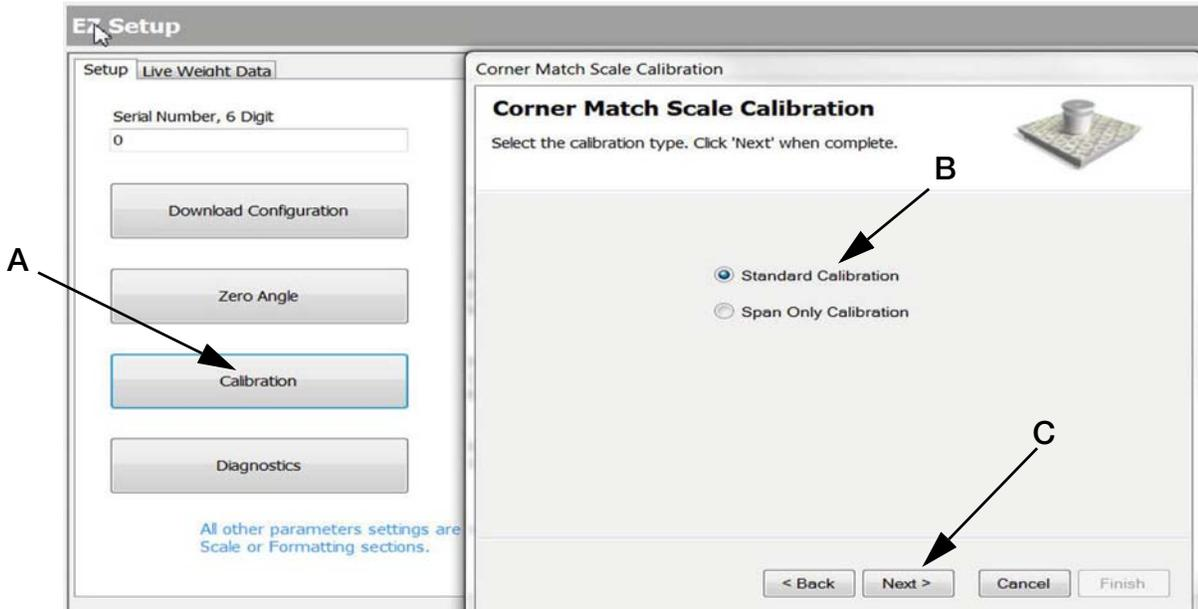

Figure 4-22. Enter Calibration
1. Select “Standard Calibration” (Fig 4-22 B)
2. Press *Next* (Fig 4-22 C).